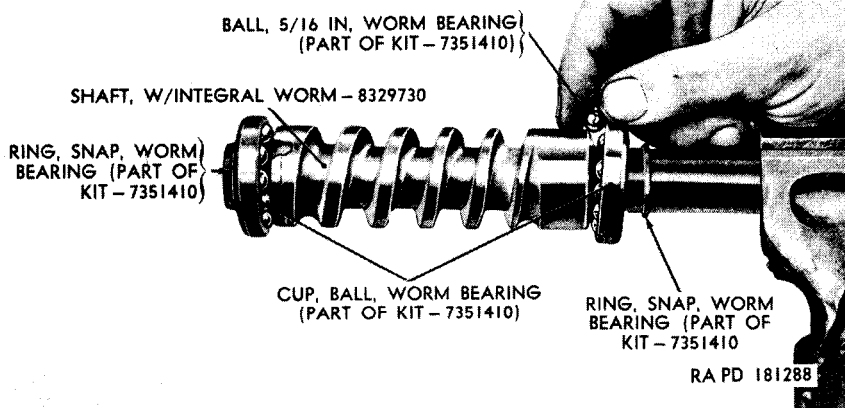

Figure 152. Installing worm bearing balls in steering assembly shaft.
a. Install Steering Gear Shaft. Install worm bearing ball cups (fig. 152) on shaft. Coat $\frac{5}{16}$ -inch worm bearing balls with universal gear lubricant (GO) to aid in their assembly. Assemble 11 balls into each cup and lock worm bearing ball cups in position with the worm bearing snap rings. Install shaft with integral worm in steering gear housing.